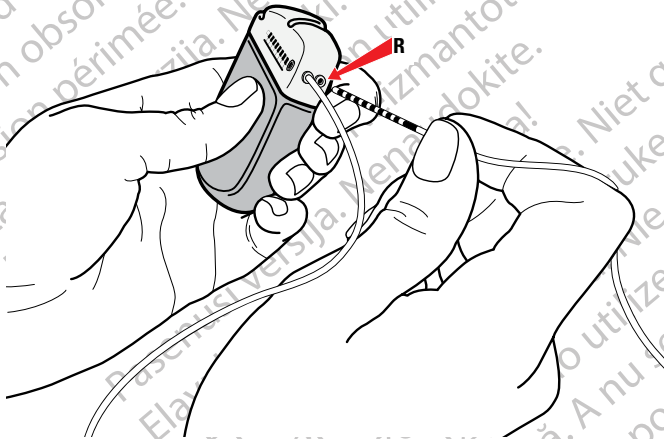

Figure 38. Connection to IPG Port R
- b. Connect the right hemisphere Extension to port R (or D) (Figure 38).